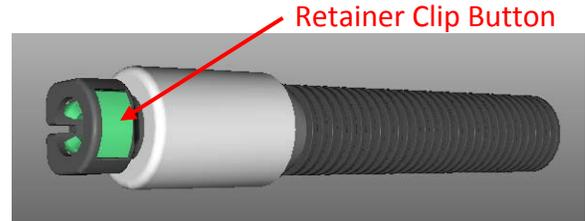

Fig. 2
5. Press and hold down the retainer clip button and pull the hose fitting off tube. (Fig. 2)